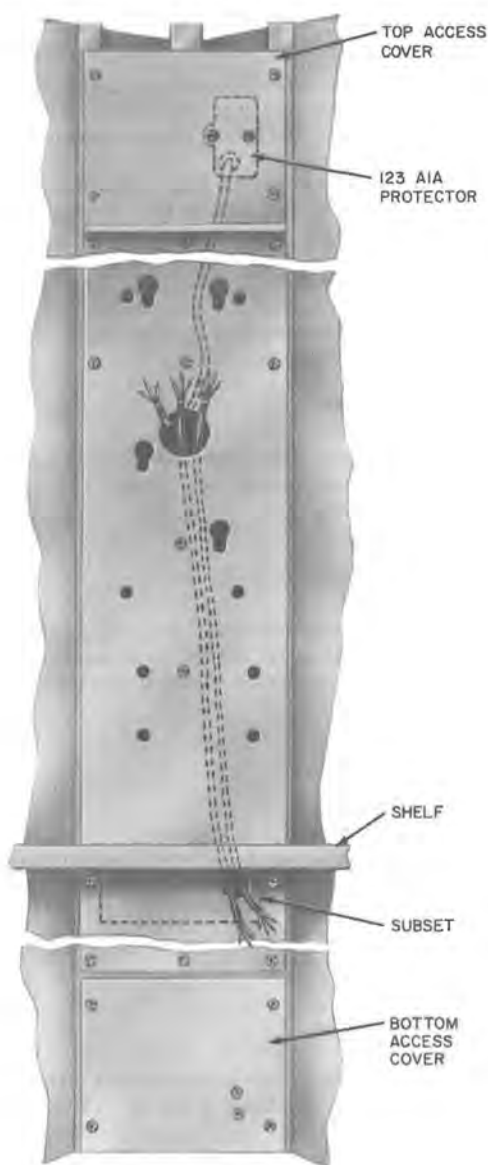

Fig. 17—Station Wiring
- 3.08** Station connection wires are furnished as shown in Fig. 17.